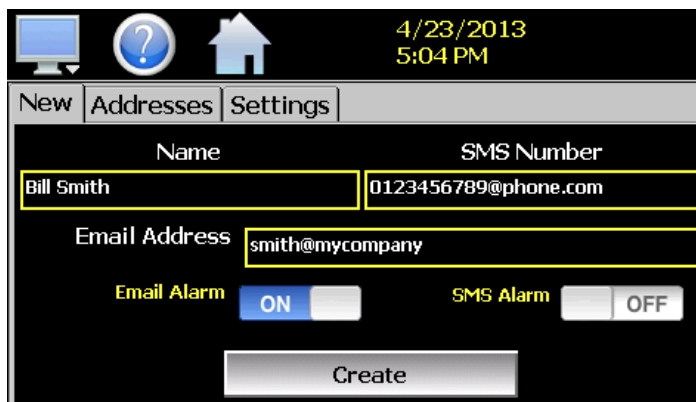

Fig. 94: Add Email Address and SMS
2. At the E-mail screen (Fig. 94), select the NEW tab to add a new e-mail address.
6. From the E-mail screen (Fig. 94), select ADDRESSES tab to view the list of e-mail addresses entered. Each entry will be shown with the notification method and address associated with it.